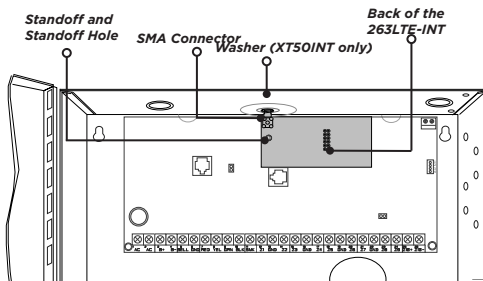

Figure 2: 263LTE-INT on an XT30INT/XT50INT Panel
3. Align the 263LTE-INT SMA antenna connector with the antenna hole in the top of the panel enclosure, place one washer around the connector, and secure it on the 12-pin cell module connector. See Figure 2.